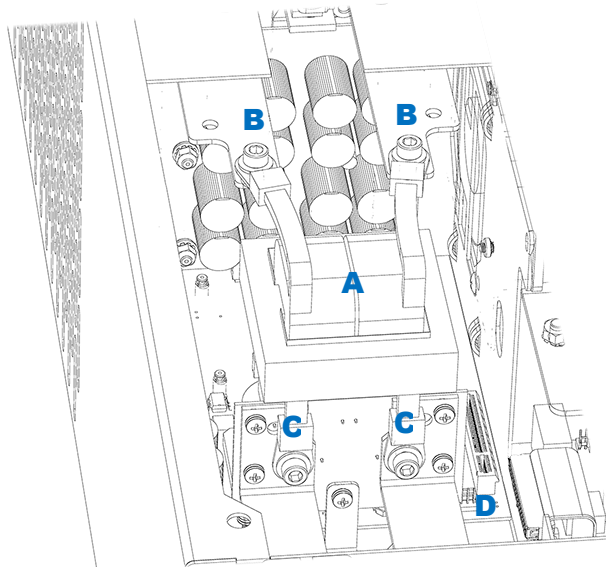

Figure 51 Common-Mode Choke
2. Remove the common-mode choke **A**. See Figure 51 for all items.
3. Remove the 4-pin connector (not depicted in Figure 51) that plugs into the carrier board at **D**.
- Replace the common-mode choke **A**. See Figure 51 for all items.